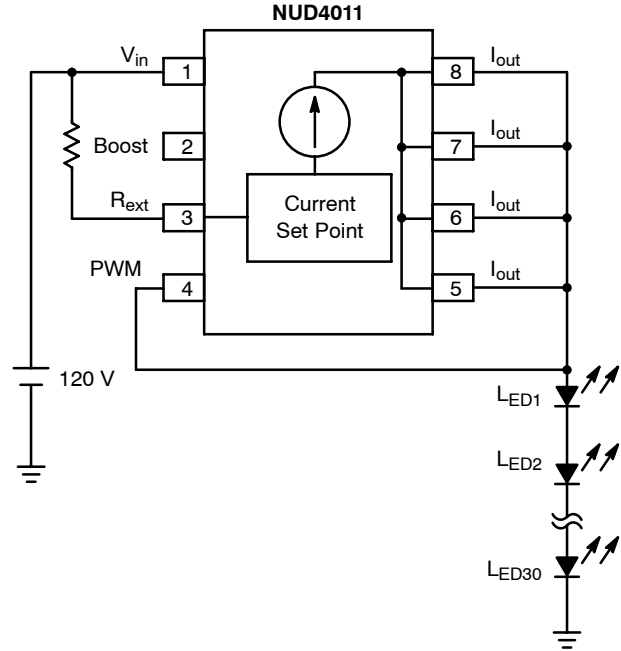

Figure 5. 120 V Application
3. Device's pin 4 connected to the LEDs array (as shown in Figure 5).
- a. Per example in Figure 5, $V_{in} = 120 \text{ Vdc}$
4. Define $V_{LED} @ I_{LED}$ per LED supplier's data sheet: per example in Figure 5,
- Per example in Figure 5, $V_{in} = 120 \text{ Vac}$